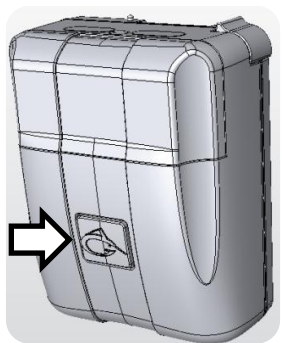

Figure 1
- Step 1: Hold Main Drive Unit with one hand as Figure 1.
- Step 2: Press button once as Figure 1, by opposite hand. button changes to “flashing blue”. Left and right pairs of tires begin rotating in opposite directions.